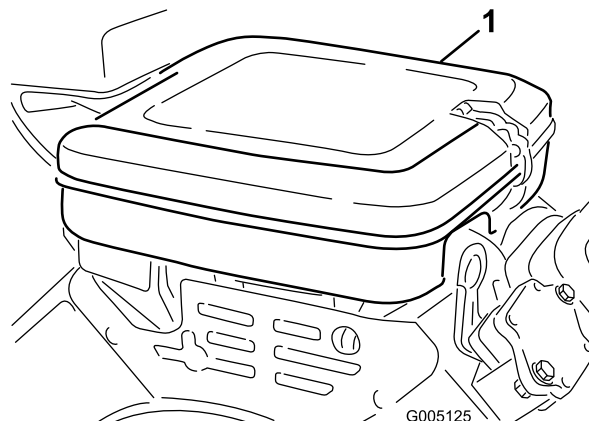

Figure 41
1. Release the locking clips and remove the air cleaner cover (Figure 41). Clean the cover thoroughly.